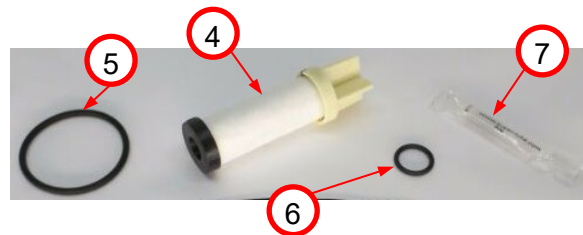

Figure 4:
1. Apply a light coat of O-ring lube (7) (included in *Agility fuel filter element service kit*) to plug O-ring (6) and bowl O-ring (5). *Figure 4*